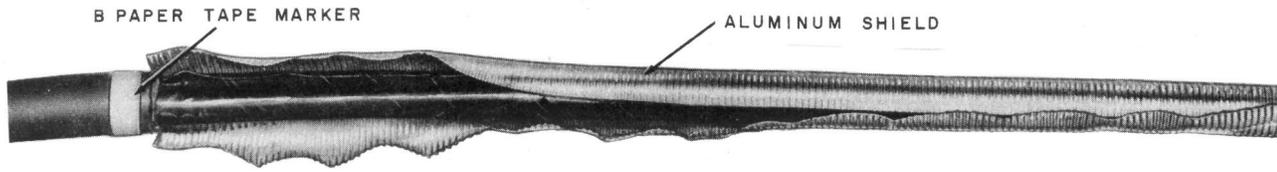

Fig. 7—Removing Aluminum Shield
4.03 Remove the aluminum shield as shown in Fig. 7. The cable jacket and shield are removed in one operation with bonded sheath cable. **Wear gloves when removing aluminum shield. Exercise care not to damage the core wrap.**